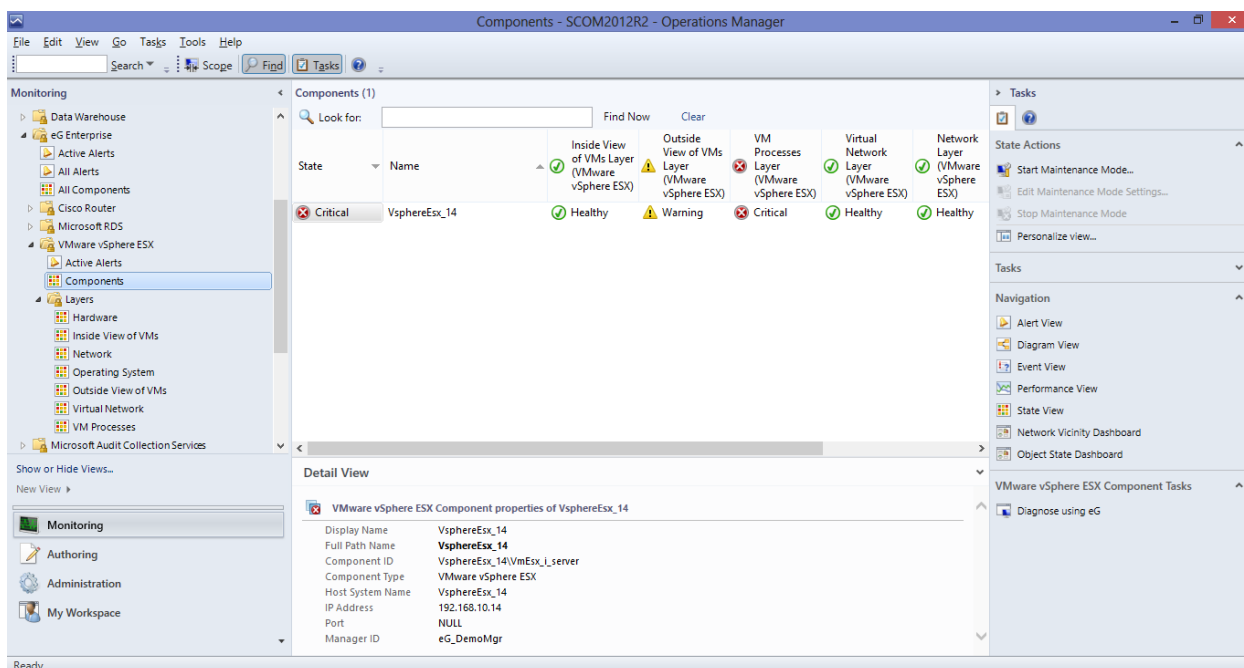

Figure 3.16: Viewing the managed components of type VMware vSphere ESX and their current state
4. Next, if you want to know which components of type **VMware vSphere ESX** are currently managed and what their current states are, click on the **Components** sub-node under the **VMware vSphere ESX** node. You will then view the complete list of managed VMware vSphere ESX components and their current states in the right panel (see Figure 3.16).